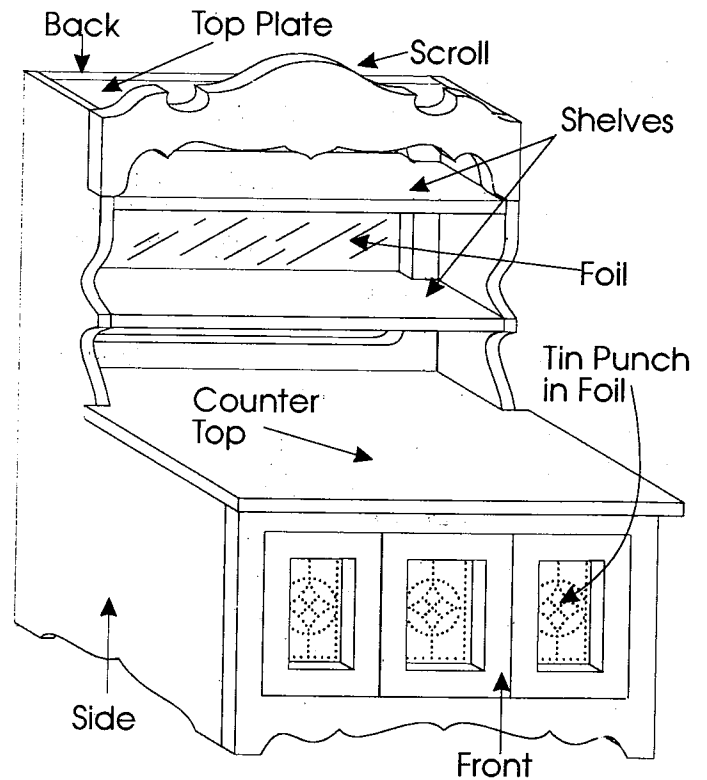

Figure 15
4. Assemble Hutch as in Fig. 15.